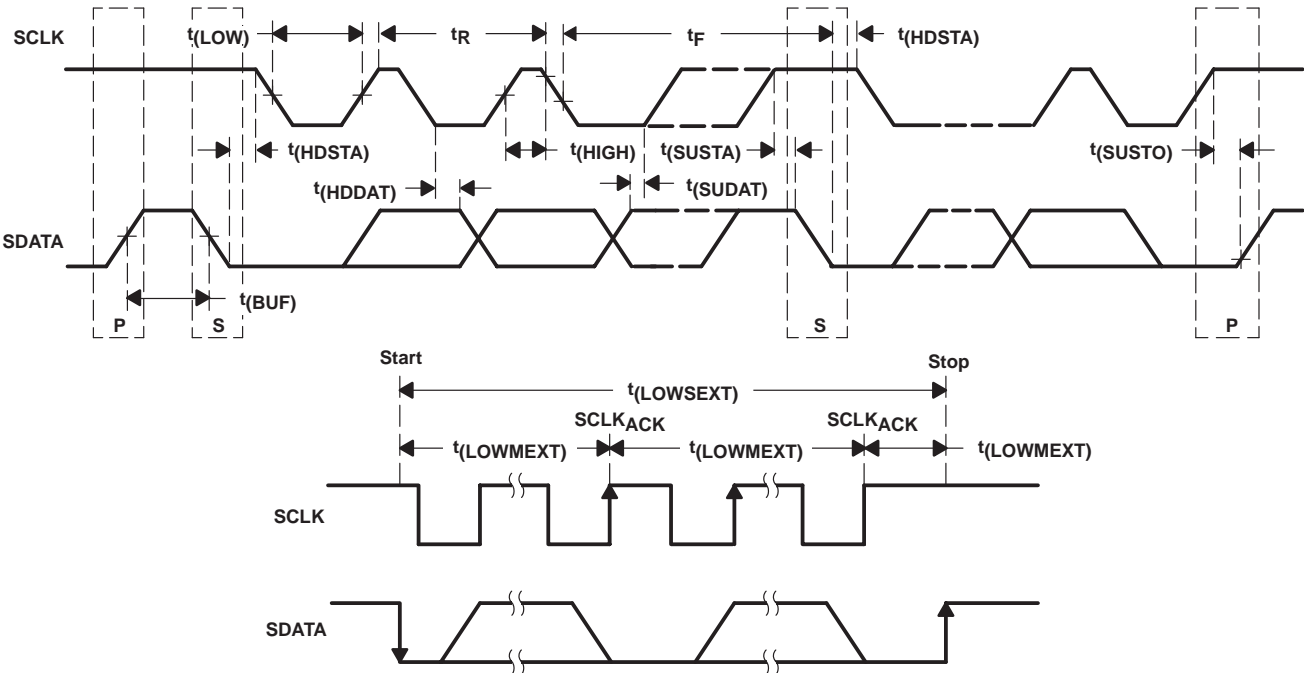
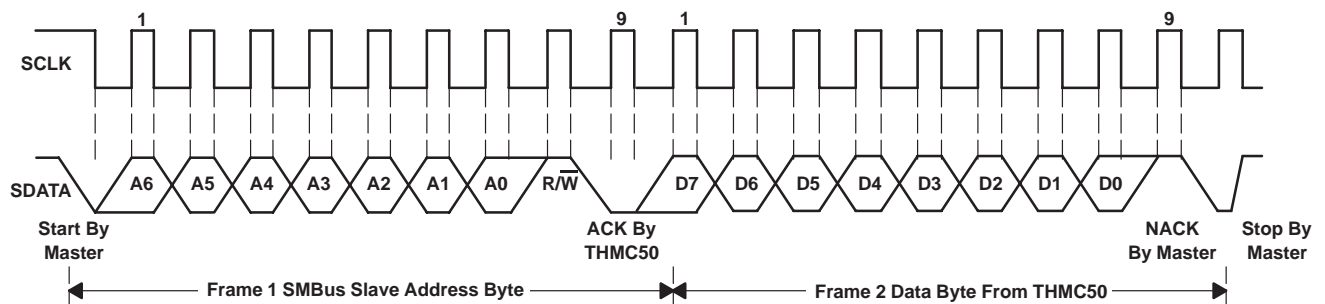

Figure 1. SMBus Timing Diagram
Figure 5. SMBus Timing Diagram for Recieve Byte Format
1. If the internal address register is known to be at the desired address, simply read the THMC50 with the SMBus interface address byte, followed by the data byte read from the THMC50 (see Figure 5).
Refer to Figure 1 through Figure 5 for the SMBus timing diagrams. The THMC50 does not support the $\overline{\text{SMBSUS}}$ or $\overline{\text{SMBALERT}}$ sideband signals referenced in the SMBus specification.